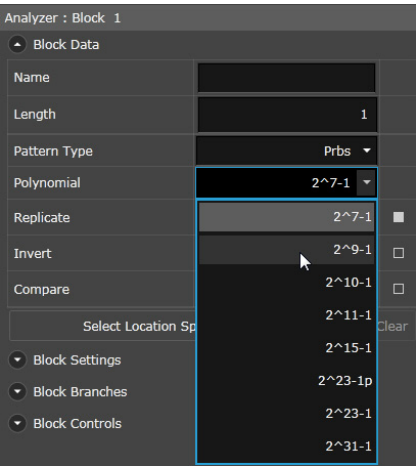

Figure 40 Select Polynomial
- b In the **Block Data** properties, select **2^9- 1** as the **Polynomial** as shown in Figure 40 on page -91.